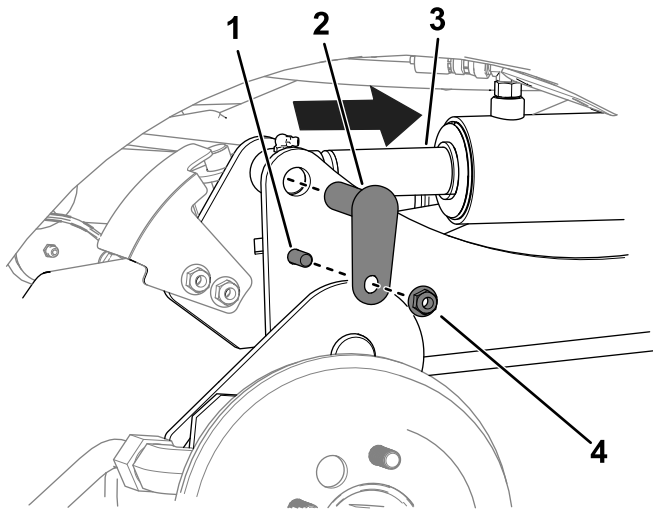

Figure 10
- C. Use a drift punch to align the cylinder rod holes with the lift-arm holes (Figure 10).
D. Use 2 bolts (3/8 x 1-1/4 inches), 2 nuts (3/8 inch), and 2 small pins to secure the lift arms to the cylinders (Figure 10).